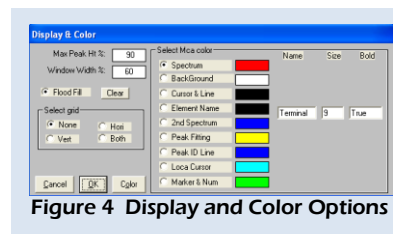

Figure 4 Display and Color Options
*Display and Color* (Figure 4) allows the user to change the appearance of the spectra. The radio buttons are used to select the item. When the *Color* button is selected, a color chart appears, providing color options. Selecting the *Element Name* allows the user to change both the color and the font. *Flood Fill* toggles the display for the primary (A) spectrum between a solid color and an outline.